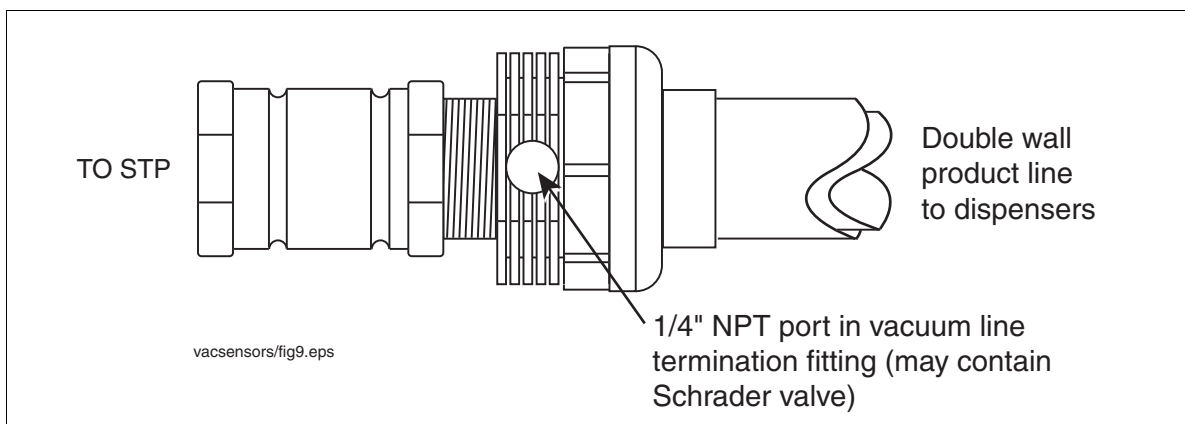

Figure 10. Example vacuum termination fitting - double-wall pipe
2. Apply an adequate amount of fresh, UL classified for petroleum, non-setting thread sealant (herein after referred to as sealant) to the threads of the 1/4" NPT barbed fitting and screw it into the 1/4" NPT port in the vacuum termination fitting of the product line (Figure 10).
- Install the 1/4" NPT barbed fitting in the vacuum termination port of the vapor return line (see Figure 10),